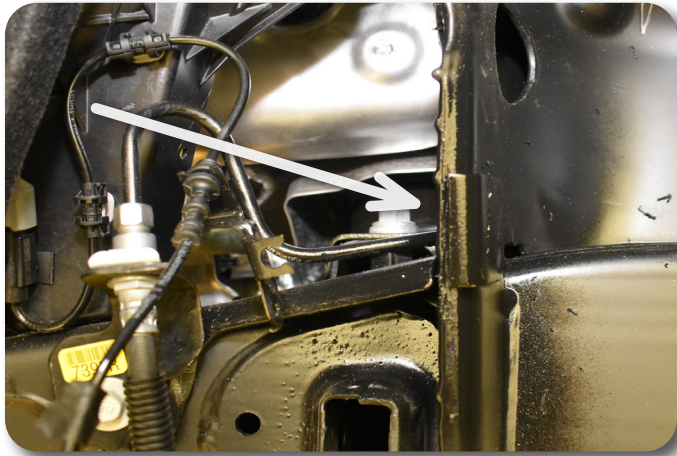

Figure 36
53. The new replacement control arm assemblies have a larger profile than the OEM assemblies. They are also designed with a wider range of available travel. Due to these unique differences, the tab on the side of the strut bucket must be removed to avoid interfering with the proper function of the new control arm assembly. Cut the tab from the side of the strut bucket as shown in Figure 36.